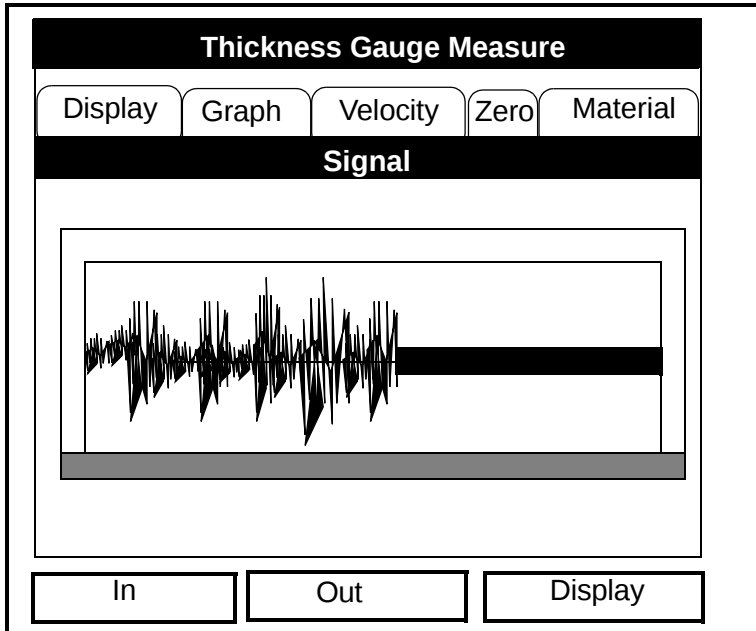

Figure 8-7: The Graph Window in Zoom Format
Press [F2] (Cancel) or [F3] (OK) to return to Operate Mode, or press the [▶] arrow key to move to another window in the option. However, if you wish to adjust the graph, press the [▼] key. The screen now appears similar to Figure 8-7 on the next page.